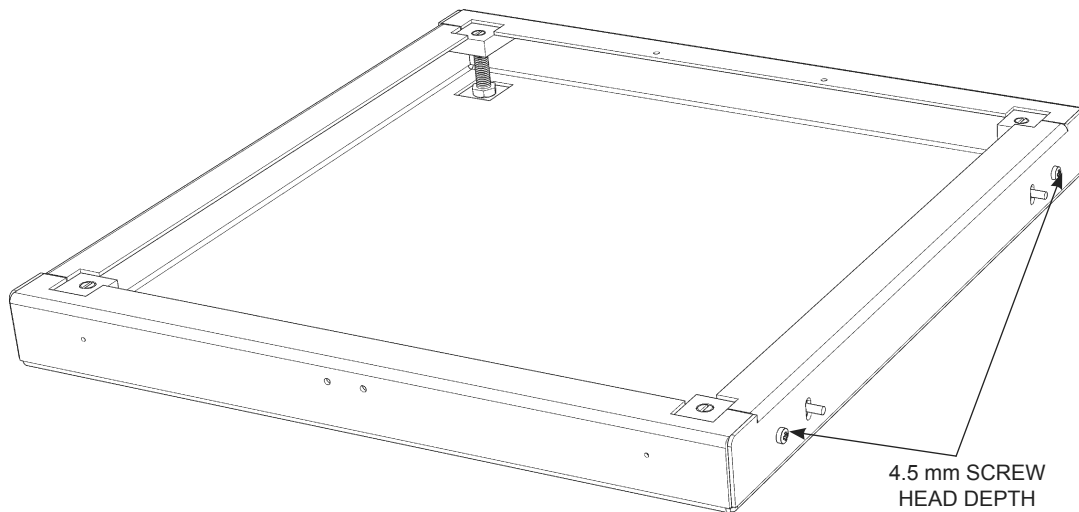

Fig. 9.2
5. When fitting the Module onto a AGA TC5/DC5 there should be a gap of 4.5mm (See **Fig. 9.2**).